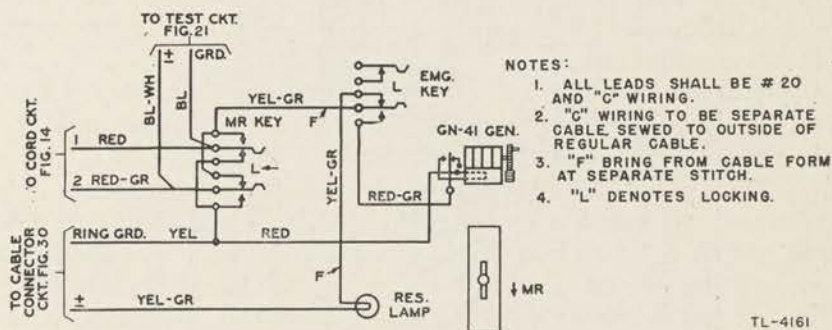

FIGURE 15.—Ringing circuit.
**16. Ringing circuit (fig. 15).**—The ringing circuit provides two-party selective ringing. Two-party selective ringing is used only on common-battery lines, and then only when it is desired to utilize party line service. The telephone instruments used for this type of service will be commercial type common-battery instruments with the bell circuit connected between ground and either the tip or ring of the line as desired. The master ringing key is the first
TO RINGING CIRCUIT FIG. 15